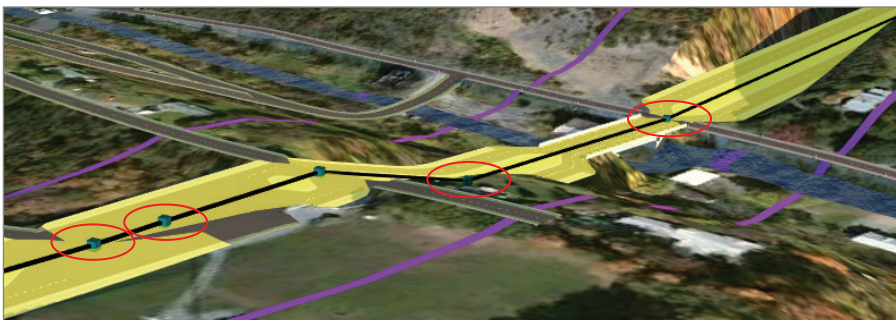

FIGURE 2.16 PVIs that are to be deleted
13. Right-click one of the PVIs circled in red in Figure 2.16. Click the Remove PVI command. Repeat this for the other three PVIs circled in red.